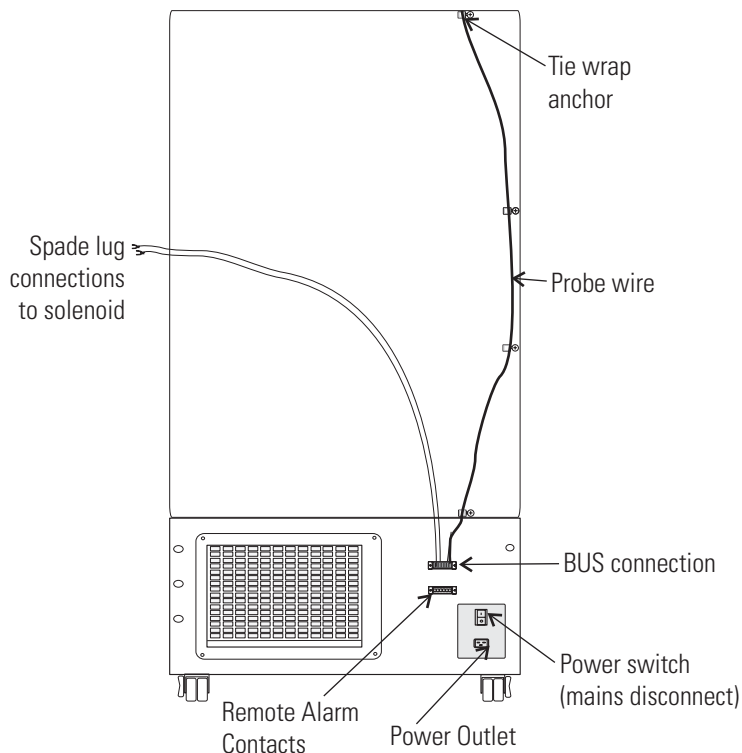

**Figure 5-4.** Mounted probe clip
1. Locate the 0.500" pre-punched hole in the upper left hand back corner of the chamber ceiling. Remove the tie wrap securing the coiled probe/solenoid harness. Uncoil the probe lead and run the probe tip (approximately 12") down through 0.500" porthole (Figure 5-4).
3. Tap #8-32 the two pre-punched holes located on the interior left wall of the freezer. Mount the bracket. Figure 5-4 shows the Back-Up probe mounted on the interior left side wall of the freezer.